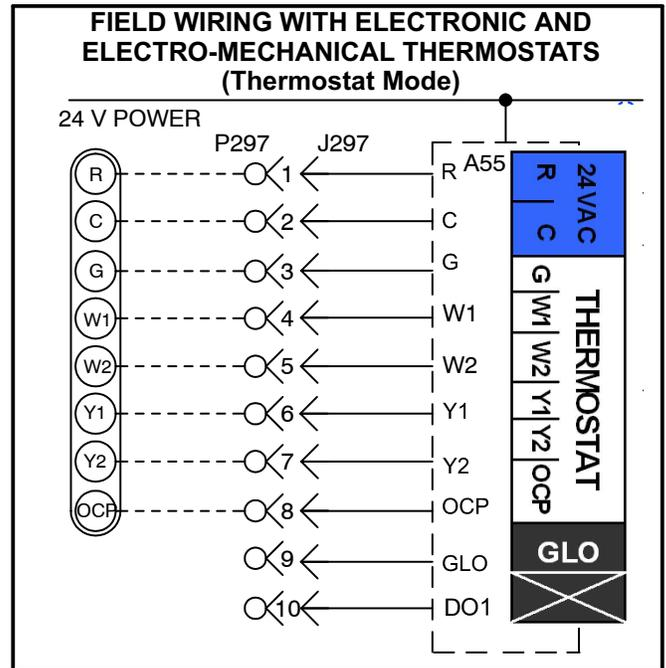
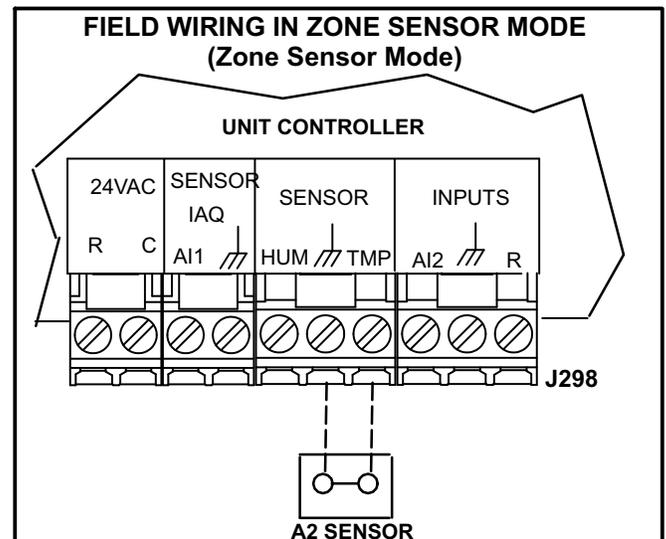

FIGURE 9
FIGURE 10
provided with thermostat. See figure 9 for field wiring and refer to wiring diagrams on unit.
The Unit Controller will operate heating and cooling based on the Unit Controller internal setpoints and the temperature from the A2 zone sensor. An optional Network Control Panel (NCP) can also be used to provide setpoints. A thermostat or return air sensor can be used as a back-up mode. Make zone sensor wiring connections as shown in figure 10.
- 2- Make wiring connections as shown in figure 9 for Thermostat Mode and figure 10 for Zone Sensor Mode. In addition, connect either a humidity sensor or a dehumidification input. See figure 11 or 12 for humidity sensor wiring and figure 13 for dehumidification input wiring.